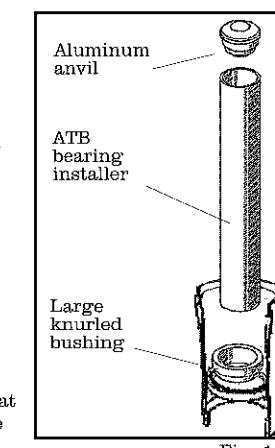

Fig. 17
8. Insert the **large knurled bushing** into the headtube (Fig. 17).